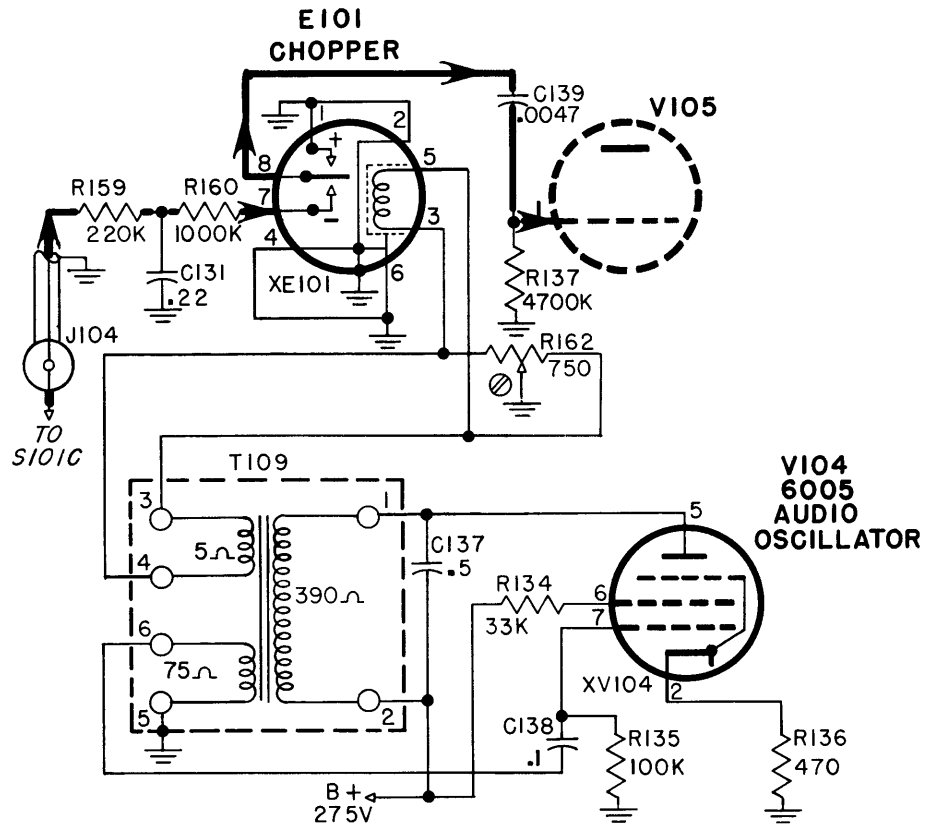

Figure 2-7. Chopper and Audio Oscillator, Simplified Schematic Diagram
g. CHOPPER AND AUDIO OSCILLATOR (See Figure 2-7).—The rectified voltage from the attenuator is further filtered by the resistive-capacitive network composed of R159, R160 and C131. The resultant D.C. voltage is connected to one side of the chopper E101. The chopper functions to change the rectified signal voltage to an A.C. signal with a frequency of 90 cycles per second. Essentially it consists of a metal reed mounted in the field of an actuating coil. A 90 C.P.S. voltage applied to the coil from the audio oscillator V104 develops the flux which drives the reed at a 90 cycle rate. At one end of its excursion the reed makes contact with chopper pin 7 which is connected to the rectified R.F. signal voltage. At the opposite end of the swing the reed contacts pin 1 which is grounded. Since the reed is connected to the control grid of carrier amplifier V105 the voltage at the grid is switched from signal potential to chassis potential at a 90 cycle rate. The exact frequency is not critical since the amplifier response is suf-